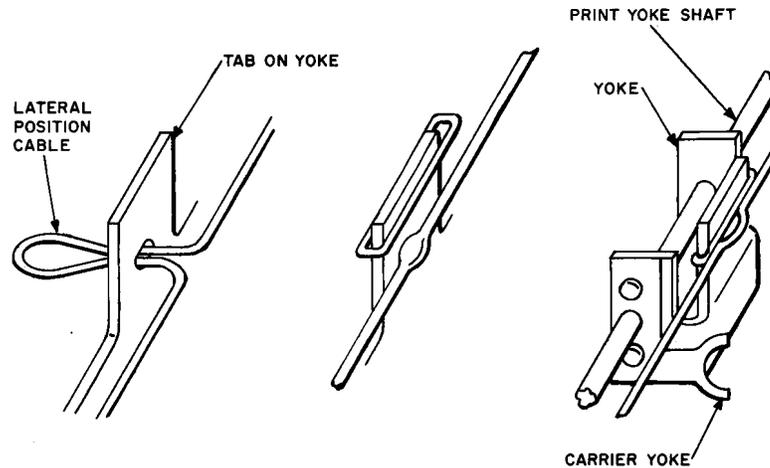

Fig. 8—Method of Attaching Lateral Position Cable to Carrier Yoke
- (1) Cut a piece of cable approximately 14 inches long, tie a knot in one end of the cable, singe the excess cable close to the knot to prevent unraveling, and thread the opposite end of the cable downward through the hole in the lateral cable adjustment post.
- (2) Make from 3/4 to a full turn ccw (viewed from top of unit) around the lateral cable adjustment post.
- (3) Thread the cable around the pulleys on solenoids 5, 3, and 4 successively. Continue to thread the cable around the left lateral pulley, through the cable clamp on the yoke, and around the right lateral pulley. Tie the lateral position cable to the lateral return spring so there is approximately one inch of cable between the lateral cable pulley and the end of the lateral return spring. Singe the end of the cable to prevent unraveling.
- (4) On older units, clamp the lateral position cable with the cable clamp on the carrier yoke by securely tightening the clamping screw. On new units, attach as shown in Fig. 8.